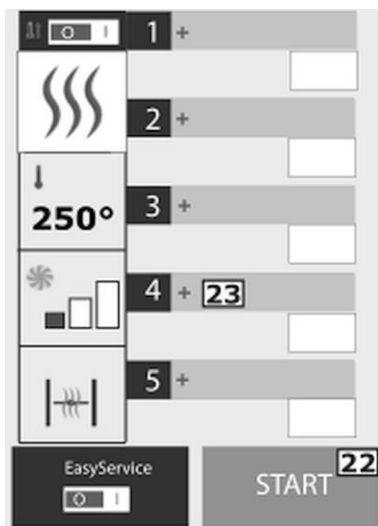

Fig. 31
By default, all Rack Control programs work basically with infinite time. Regardless of whether the program includes pre-heating or not, the first thing to do is start the program by pressing START key (22, Fig. 31).
After starting the program and at the end of pre-heating (if present), press the '+' symbol key (23, Fig. 31) for each of the right hand fields to add the name of the dish to be enter for the selected level.